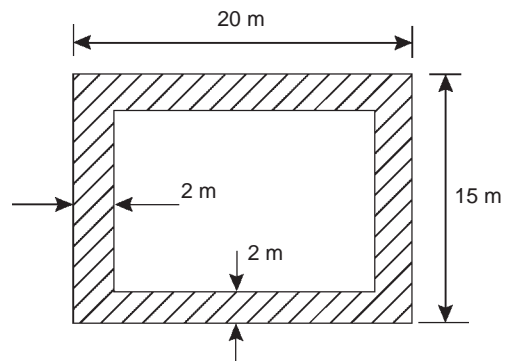

Figure M1
22. The area of the path shown shaded in Fig. M1 is: